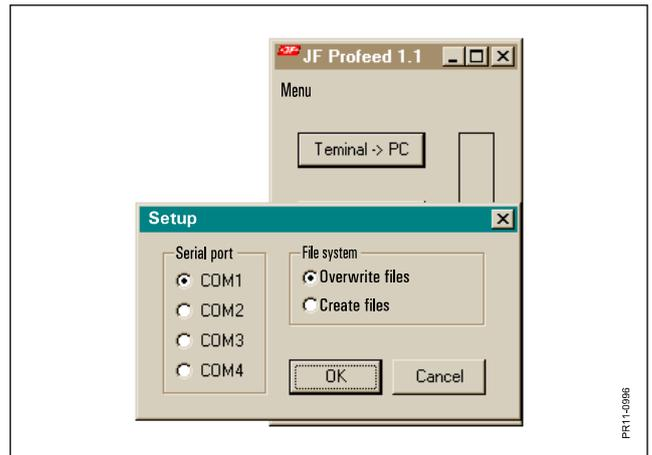

Fig. 7.9
**Fig. 7.9** Choose the menu point "setup". State which port is connected to the infrared receiver, typically this would be COM1 or COM2. Then the programme is ready to transmit and receive data. The file type is CSV, semicolon separated, which most spreadsheets can handle.